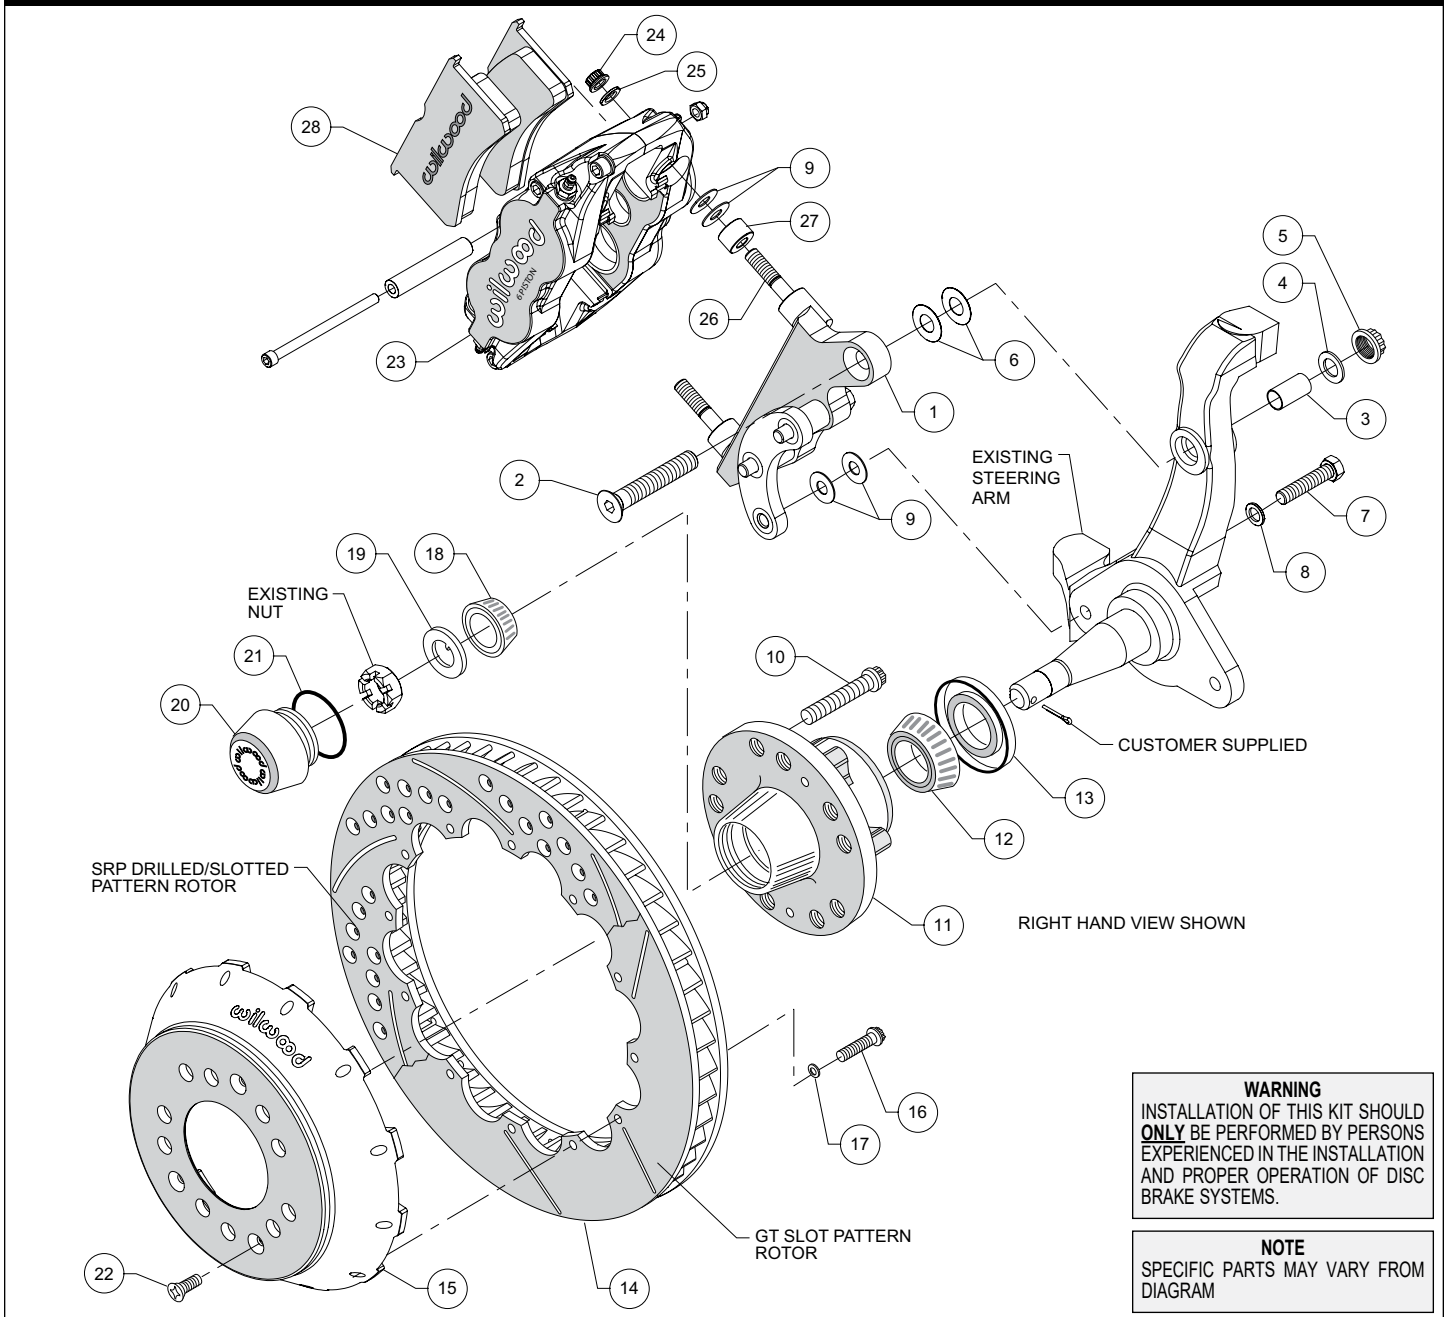
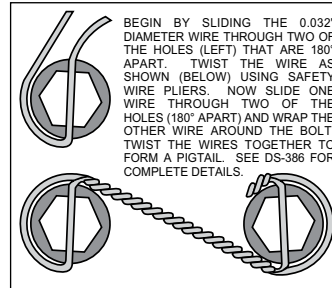
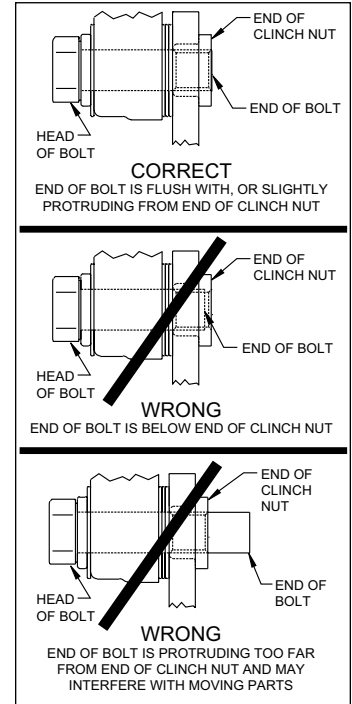

Figure 1. Typical Installation Configuration
Figure 3. Safety Wire Diagram
Figure 4. Clinch Nut Engagement Diagram
**NOTE:** Numbers in parenthesis refer to the parts list and Figure 1 on the preceding pages.
**CAUTION:** All mounting bolts must fully engage clinch nuts. Be sure to check that all bolts are either flush or protruding through flanged side of clinch nut after shimming, Figure 4.
•The caliper bracket (1) should initially be installed with clean, dry threads on the mounting bolts. The bracket has been assembled at the factory for alignment purposes. Loosen the two bolts that secure the brackets together so that the bolts are hand tight only. This will enable the bracket assembly to be adjusted to accommodate various spindle tolerances during assembly. Insert sleeve (3) into top mounting hole on the spindle, Figure 1. Orient the bracket as shown in Figure 1 and install using bolt (2), washer (4), and locknut (5), in the upper hole, as shown in Figure 1 and Photo 1. Initially use two .032" thick shims (6) on the upper bolt between the bracket and spindle, Figure 1. Install bolt (7) and washer (8) in the lower hole, Figure 1. Initially use two .035" thick shims (9) between the bracket and spindle face. Temporarily tighten the mounting bolts, followed by the two bracket-to-bracket bolts. **NOTE:** The bracket must fit squarely against the mounting points on the spindle. Inspect for interference from casting irregularities, machining ridges, burrs, etc. Later, after the bracket and caliper alignment has been checked, the bolts will be secured using red *Loctite*® 271.
•Check that the bracket (1) is aligned parallel to the rotor (14), Photo 2, by assembling and installing the hub, hat, and rotor per the steps below. If not, parallel adjust by adding or subtracting shims (9) on the lower bolt between the spindle and bracket, Figure 1, Photo 2.
•Install wheel studs (10) into the hub (11), Photo 3. Torque to 77 ft-lb. **NOTE:** There are two five lug patterns in the hub (5 x 4.50 and 5 x 4.75). Ensure the correct hub stud pattern is being used to fit the wheel application.
•Pack the large inner bearing cone (12) with high temperature disc brake bearing grease (available from your local auto parts store) and install into the backside of the hub (11), Photo 4.
- Install the grease seal (13) by pressing into the backside of the hub (11), flush with the end of the hub, Photo 4.
- Orient the rotor (14) and the hat (15) as shown in Figure 1 and Photo 5. Attach rotor to hat using bolts (16) and washers (17). Apply red *Loctite*® 271 to the bolt threads and torque to 155 **in-lb** using a criss-cross pattern. For an added measure of security, the bolts may be safety wired using standard 0.032 inch diameter stainless steel safety wire as shown in Figure 3. Refer to Wilwood's data sheet DS-386 (available at [www.wilwood.com/Pdf/DataSheets/ds386.pdf](http://www.wilwood.com/Pdf/DataSheets/ds386.pdf)) for complete safety wire installation instructions.
- Pack the small outer bearing cone (18) with high temperature disc brake bearing grease and install into hub (11). Slide the hub assembly onto the spindle. Secure using spindle washer (19) and OEM spindle nut, Photo 6. Adjust bearings per OEM specifications. Install saved OEM nut lock (if any) and a new cotter pin (not included).
- Screw dust cap (20) into hub (11), Photo 7. Friction created by the o-ring (21) on the dust cap keeps it from unscrewing. **NOTE:** *The O.D. of the existing OEM spindle washer may be larger than the I.D. of the dust cap not allowing it to seat against the hub face. Therefore, use the spindle washer (19) supplied with the kit instead of the OEM washer.*
- Slide the hat/rotor assembly (14/15) onto the hub (11) taking care to align the small countersunk holes in the hat with the small threaded holes in the hub. **NOTE:** *The hat must fit flush against the hub face or excessive rotor run out may result.* Install three flat head screws (22) through the small holes in the hat, Photo 7, and torque to 85 **in-lb**.
- NOTE:** *This kit contains distinct right and left hand calipers that must be mounted in a specific direction, as described below.* Lubricate the caliper mounting studs (26) with lightweight oil. Initially place one spacer (27), and two .035" thick shims (9) on each stud between the caliper and the bracket, as shown in Figure 1 and Photo 8. Mount the caliper (23) onto the bracket (1) using lock nuts (24) and washers (25), Figure 1. Ensure that the caliper is mounted so the largest pistons are at the rotor exit end of the caliper, in relation to the direction of rotor rotation. Temporarily tighten the lock nuts and view the rotor through the top opening of the caliper. The rotor should be centered in the caliper, Photo 9. If not, adjust by adding or subtracting shims (6 upper bolt, and 9 lower bolt) between the spindle and the caliper bracket. Always add or subtract the same amount of shims on each of the two mounting bolts to keep the bracket parallel to the rotor. **NOTE:** *The end of the lower bolt must be flush with, or slightly protruding from, the head of the clinch nut, as shown in Figure 4.* If necessary place spare shims between washer (8) and spindle to achieve the proper clinch nut engagement.